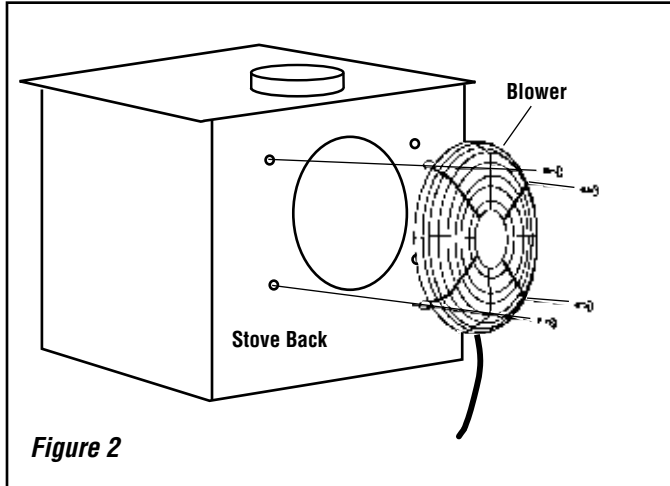

Figure 2
Step 2. Using a 5/32 allen wrench/T-handle, remove the blower mounting allen screws from blower, and remove blower from stove. See **Figure 2**.
Step 15. Reinstall the blower assembly as shown in **Figure 2** and the following instructions; Ensure the wiring harness on the blower cage is at the bottom right when mounted to the back heat shield of the stove. Be aware that the blower wiring harness should be clear of the back of the firebox and blower fan blades. The blower can now be fastened to the back of the heat shield with the four screws and washers that were removed earlier in this step using the 5/32" allen wrench/T-handle. Visually inspect that the blower is centered in large opening on the back of the heatshield. If not centered in the opening the fan blades could make contact with the heatshield making excessive noise. Once everything is correctly in place you can then tighten down all four screws. **Tighten the screws moderately tight but do not over tighten as you may strip the holes out.**